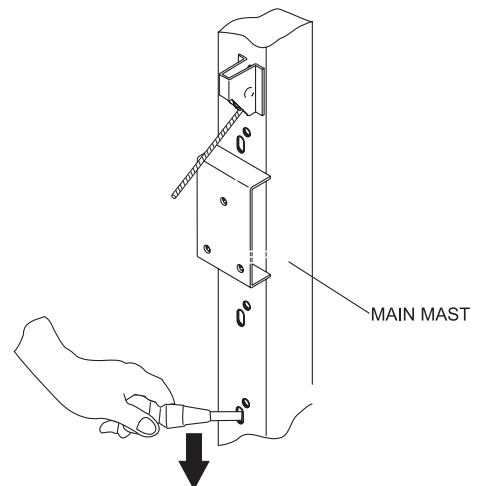

Figure 36. Releasing the Safety Stop Latches
5. To release the safety stopper without pulling the cable wire when removing the second mast from the first (main mast), insert a screwdriver (Figure 36) nearest the hole where the latch is caught. Press down on the screwdriver to lift the pulley inside the second mast upward. Remove the screwdriver lifting the second mast upwards as the latch is being pulled back. The second mast should now be able to be pulled out from the first mast.